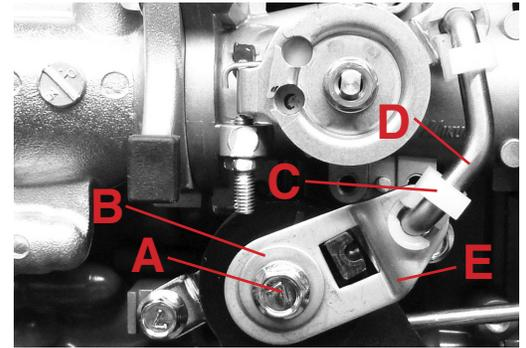

Fig 2
**Step 3: See Fig. 2**
- Use socket wrench with 10mm socket to Suzuki bolt (A) and washer (B).
- Rotate clip (C) counter clockwise and release rod (D) from Suzuki throttle arm (E).
**Step 6: See Fig. 2 & 5**